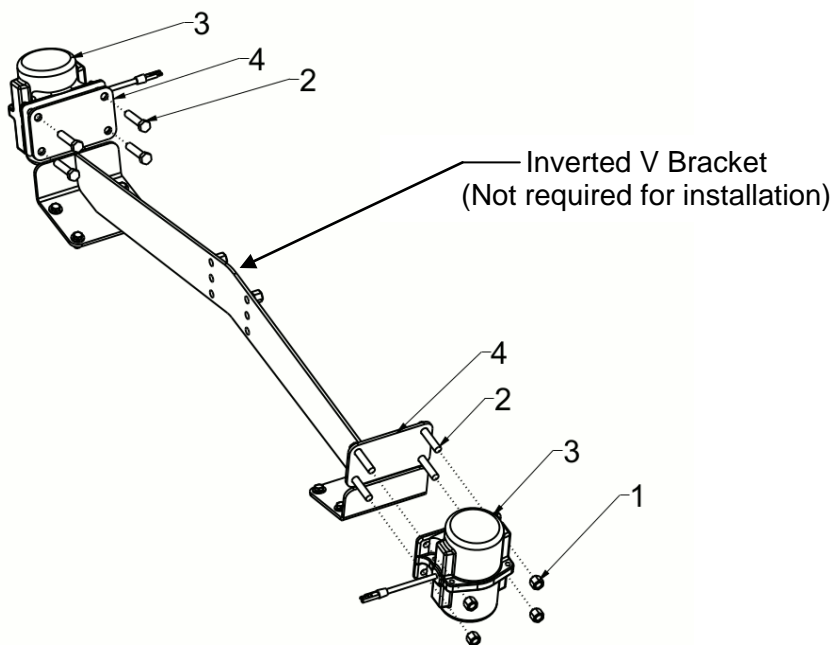

Figure 3: Bolt Configuration
2. Attach Vibrator (3) onto outside of hopper using Backing Plate (4), 3/8"-16 X 1-3/4 HHCS ST/ST (2), and 3/8"-16 ST/ST Nylon Locknuts (1). Refer to Figure 3. Be sure bolts are properly torqued. Refer to Table 1.
3. Connect Vibrator (3) wiring to Spreader main harness.